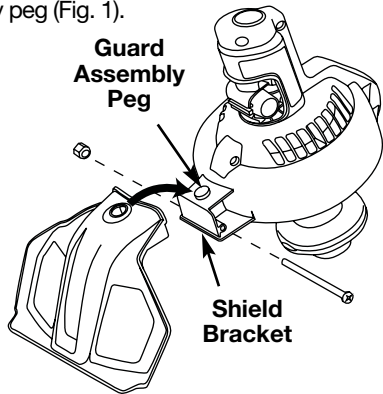

Fig. 1
1. Place the narrow end of the cutting attachment shield over the shield bracket and position it so that the circular cut-out slips over the guard assembly peg (Fig. 1).